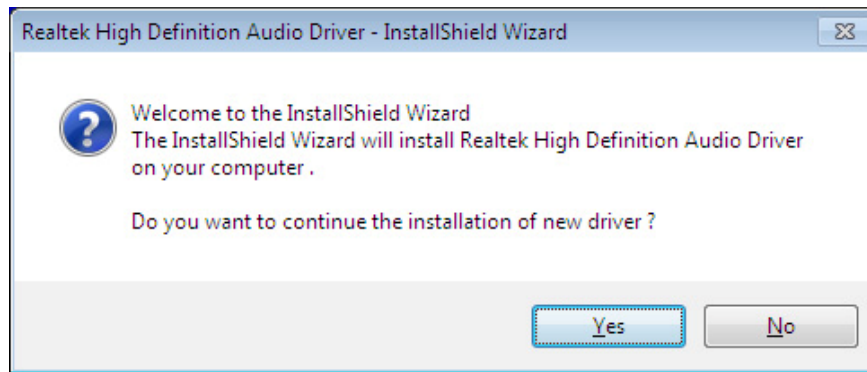

Figure 6-17: Audio Driver Installation Welcome Screen
Step 5: The Audio Driver Installation screen in **Figure 6-17** appears. Click **Yes** to install the audio driver.